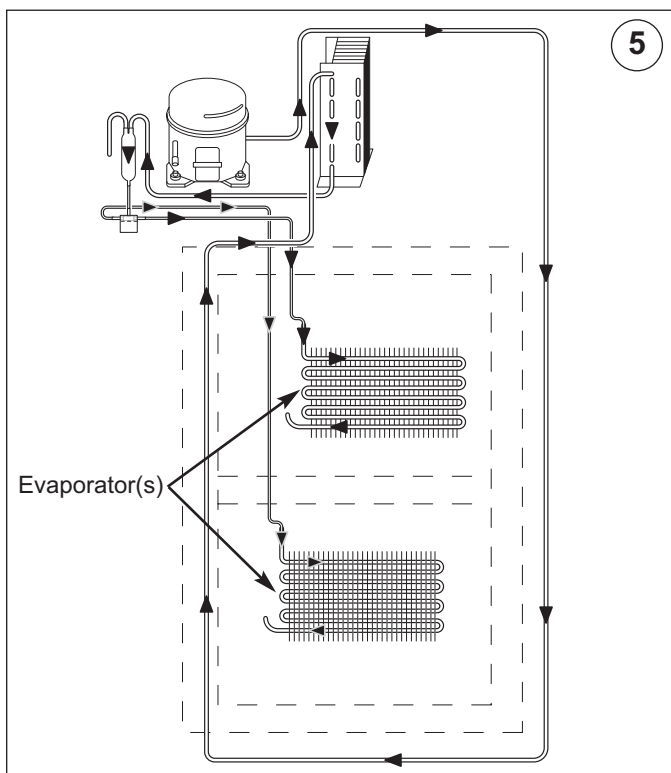

Figure 4-11. Evaporator(s)
(5) - Evaporator(s) (Figure 4-11)